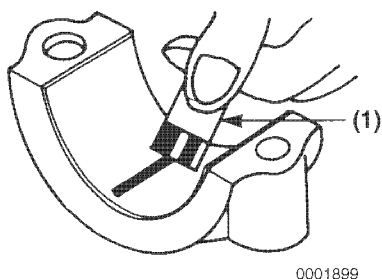

Figure 6-44
- (f) Compare the width of the flattened PLASTIGAGE to the graduation marks on the package **(Figure 6-44, (1))**. The mark that most closely matches the width of the flattened PLASTIGAGE will indicate the bearing oil clearance. See *Crankshaft, Balancer Shaft, Piston and Connecting Rod on page 6-8* for the wear limit.